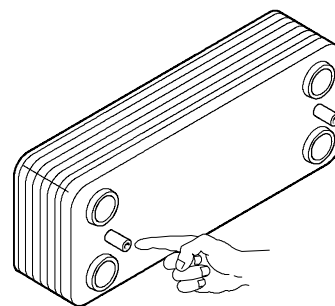

fig. 18
**Attention.** Reassembling the exchanger be sure to put the off center location/securing pin indicated in fig. 18 towards the left side of the boiler.